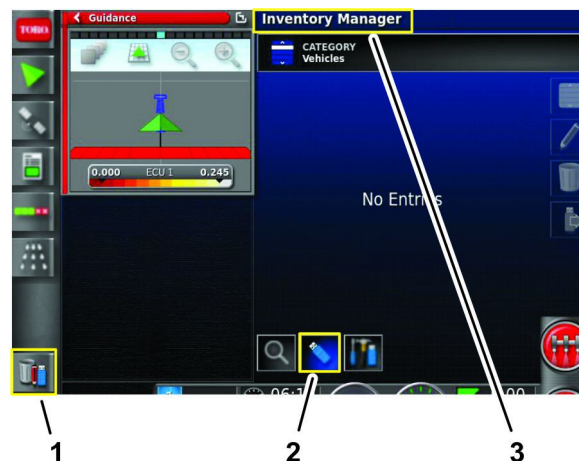

Figure 102
3. Press the Inventory Manager icon (Figure 102).
4. If the title at the top of the screen states Inventory Manager, press the Switch View icon (Figure 102).